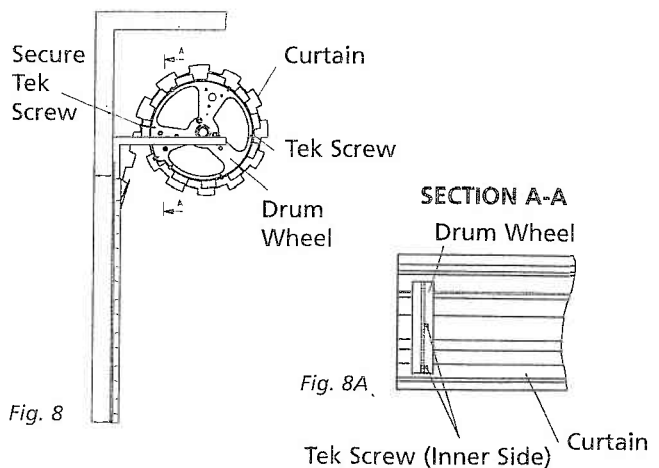

Fig. 8
- w) Final Security - Fully close the door, mark the corrugation just before the Curtain leaves the top roll, drill through the Curtain and the Drum wheel rim and apply a 'pop rivet' or self tapping screw. This must be done at both ends of the door (Fig. 8).